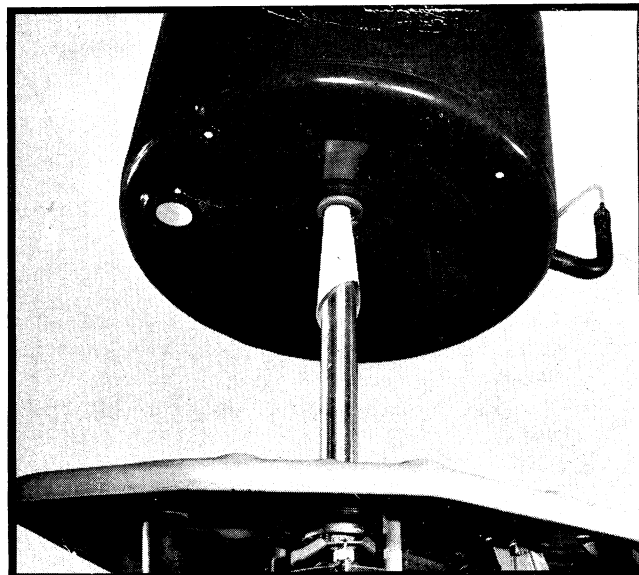

Figure 147
- D. Make a pilot, or guide, by forming a sheet of heavy paper into a cone shape, and slip it over the top of the agitator shaft and spin tube, *Figure 147*. This will protect the tub gasket from damage when installing the conical bottom tub in the cabinet.